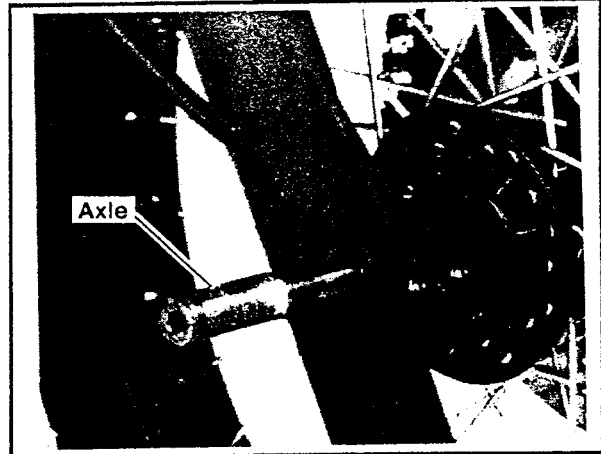

Figure 5-48. Remove Front Axle
3. See Figure 5-48. Support wheel by hand and remove front axle.